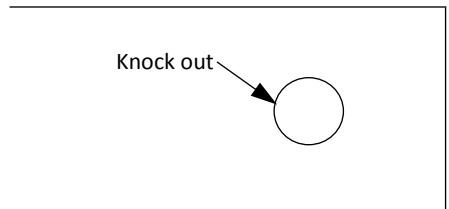

Fig 8
1. Ducting will ideally be connected to the front or back of the Elektra. Remove the knock out panel with a hammer and fix the 150mm diameter plastic flange with the 4 screws included. Then connect the ducting. (Fig 8 & 9).